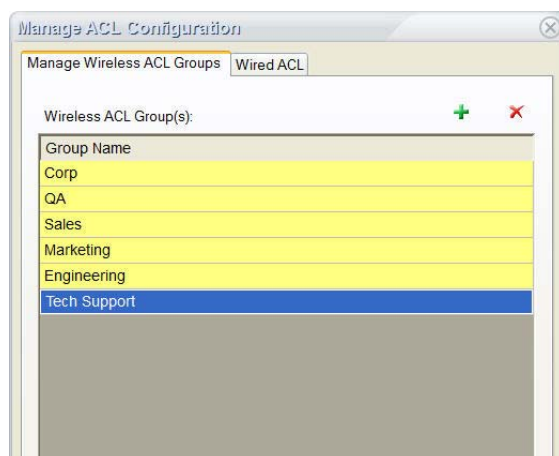

Figure 4-27: Newly created ACL groups
- 4) Repeat Steps 2 through 3 to create as many ACL groups as applicable. See Figure 4-27.